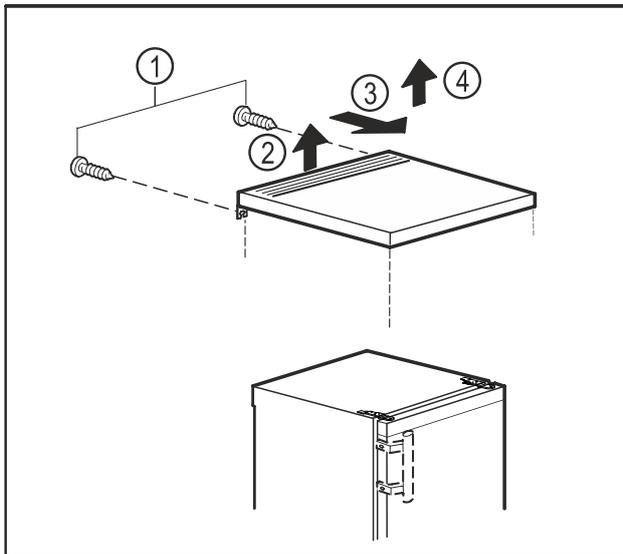

Fig. 6
- ▶ Remove the screws on the rear side. Fig. 6 (1)
- ▶ Lift the tabletop at the back. Fig. 6 (2)
- ▶ Slide the tabletop forward. Fig. 6 (3)
- ▶ Lift the tabletop away upwards. Fig. 6 (4)